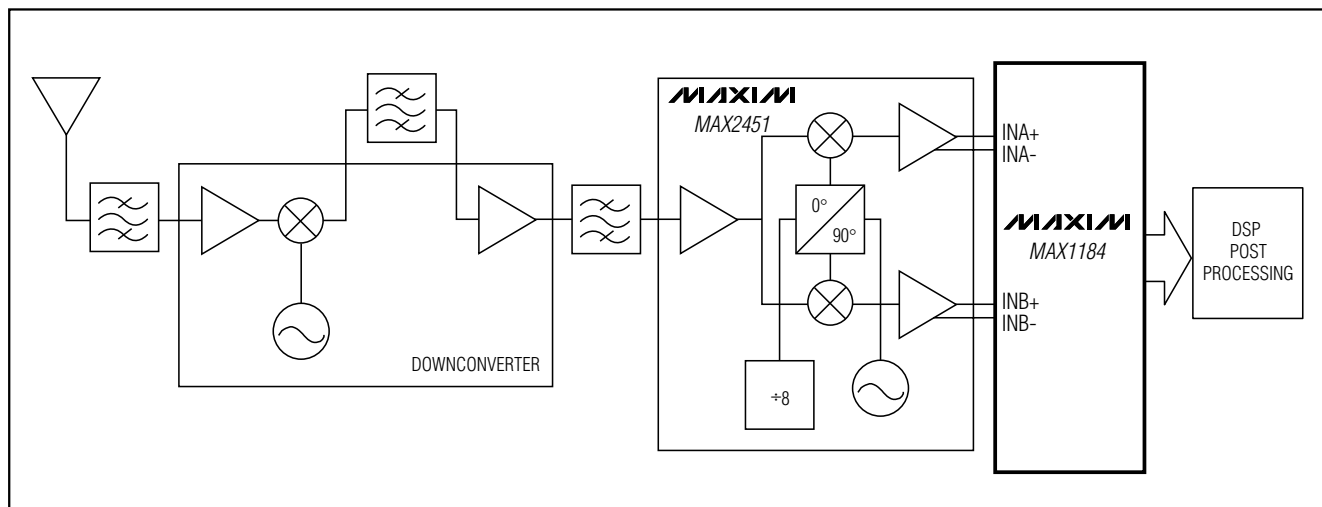

Figure 8. Typical QAM Application, Using the MAX1184
The most frequently used modulation technique for digital communications applications is probably the Quadrature Amplitude Modulation (QAM). Typically found in spread-spectrum based systems, a QAM signal represents a carrier frequency modulated in both amplitude and phase. At the transmitter, modulating the baseband signal with quadrature outputs, a local oscillator followed by subsequent up-conversion can generate the QAM signal. The result is an in-phase (I) and a quadrature (Q) carrier component, where the Q component is 90 degree phase-shifted with respect to the in-phase component. At the receiver, the QAM signal is divided down into its I and Q components, essentially representing the modulation process reversed. Figure 8 displays the demodulation process performed in the analog domain, using the dual matched +3V, 10-bit ADC (MAX1184), and the MAX2451 quadrature demodulator to recover and digitize the I and Q baseband signals. Before being digitized by the MAX1184, the mixed down-signal components may be filtered by matched analog filters, such as Nyquist or pulse-shaping filters which remove any unwanted images from the mixing process, thereby enhancing the overall signal-to-noise (SNR) performance and minimizing intersymbol interference.